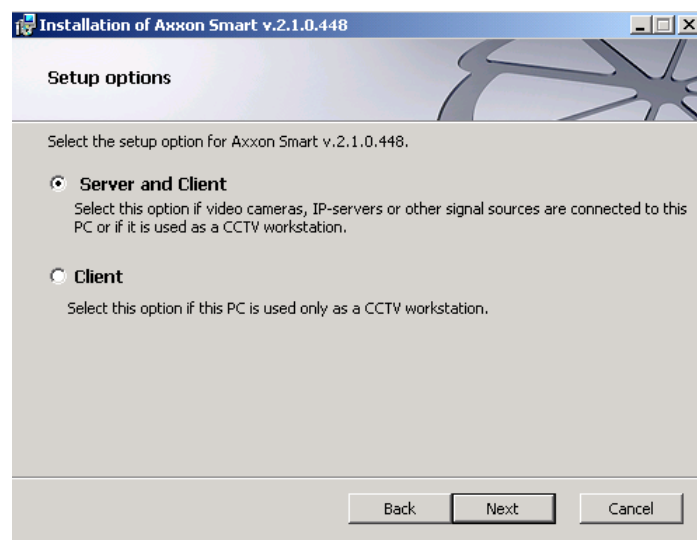

Fig. 3.2—6 Selecting installation type
7. Specify the directory in which to install the Axxon Smart software kit onto your computer and click **Next** (Fig. 3.2—7). The package includes Axxon Smart and the Journal BD and the Object Path BD